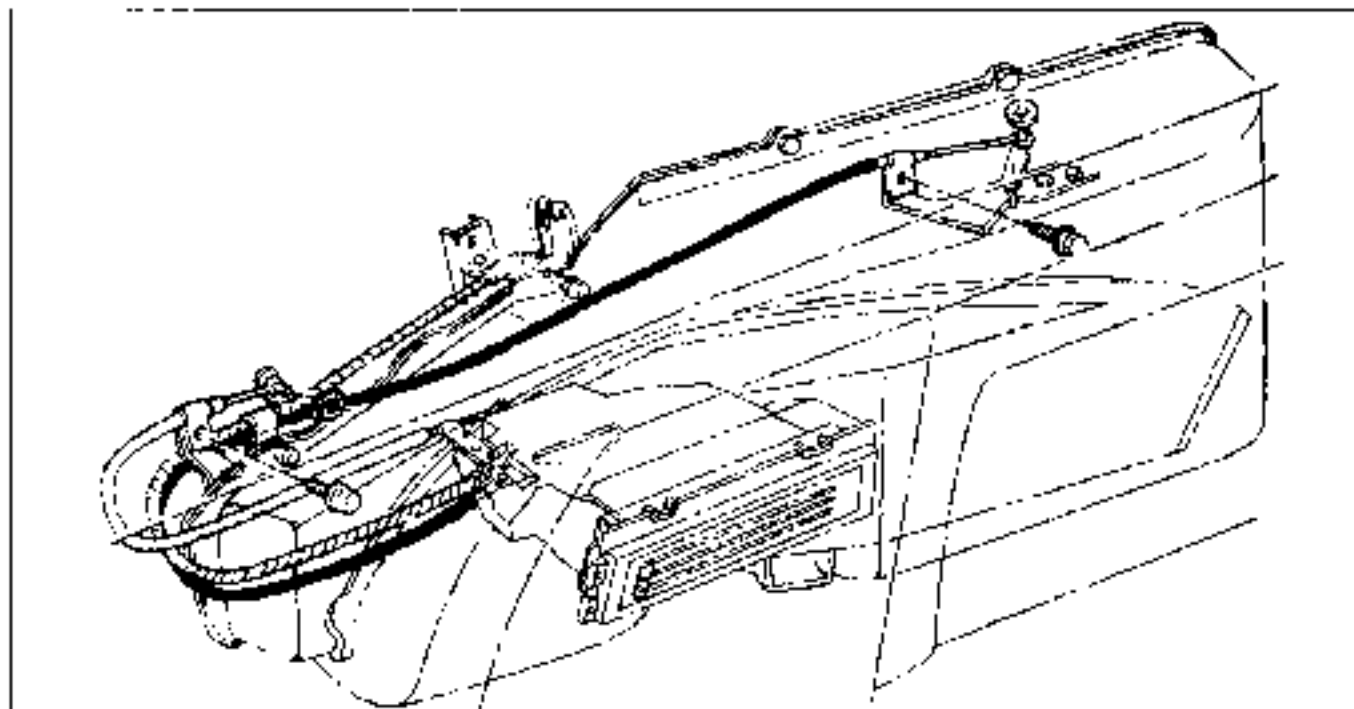

Fig. 1-3 Control Panel Controls Allspark-Firebird
1. Remove instrument panel trim plate (Fig. 1-3).
1. Remove glove compartment (Fig. 1-3).
2. Disconnect cable at heater case (Fig. 1-3).
1. Disconnect cable from pivot on heater case (Fig. 1-3).